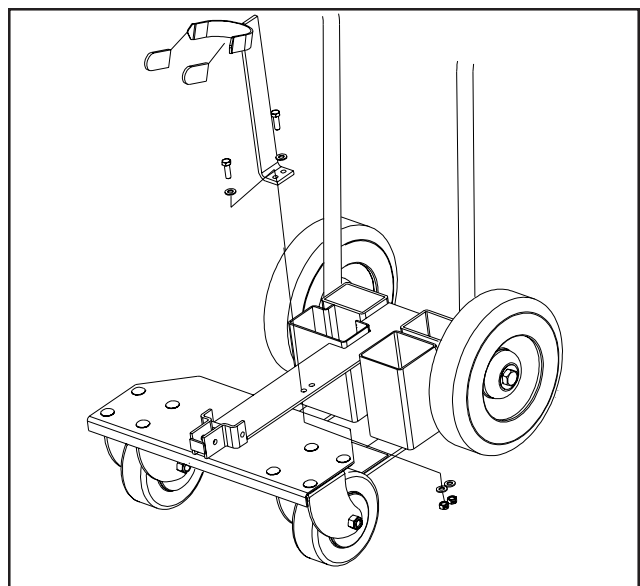

FIGURE 4
4. Attach jack support, Part # 2709, to Kaddy frame using: 5/16-18NC x 1" long hex head cap screws, washers and lock nuts. Make sure top opening of support is pointed to front. (See Figure 4.)